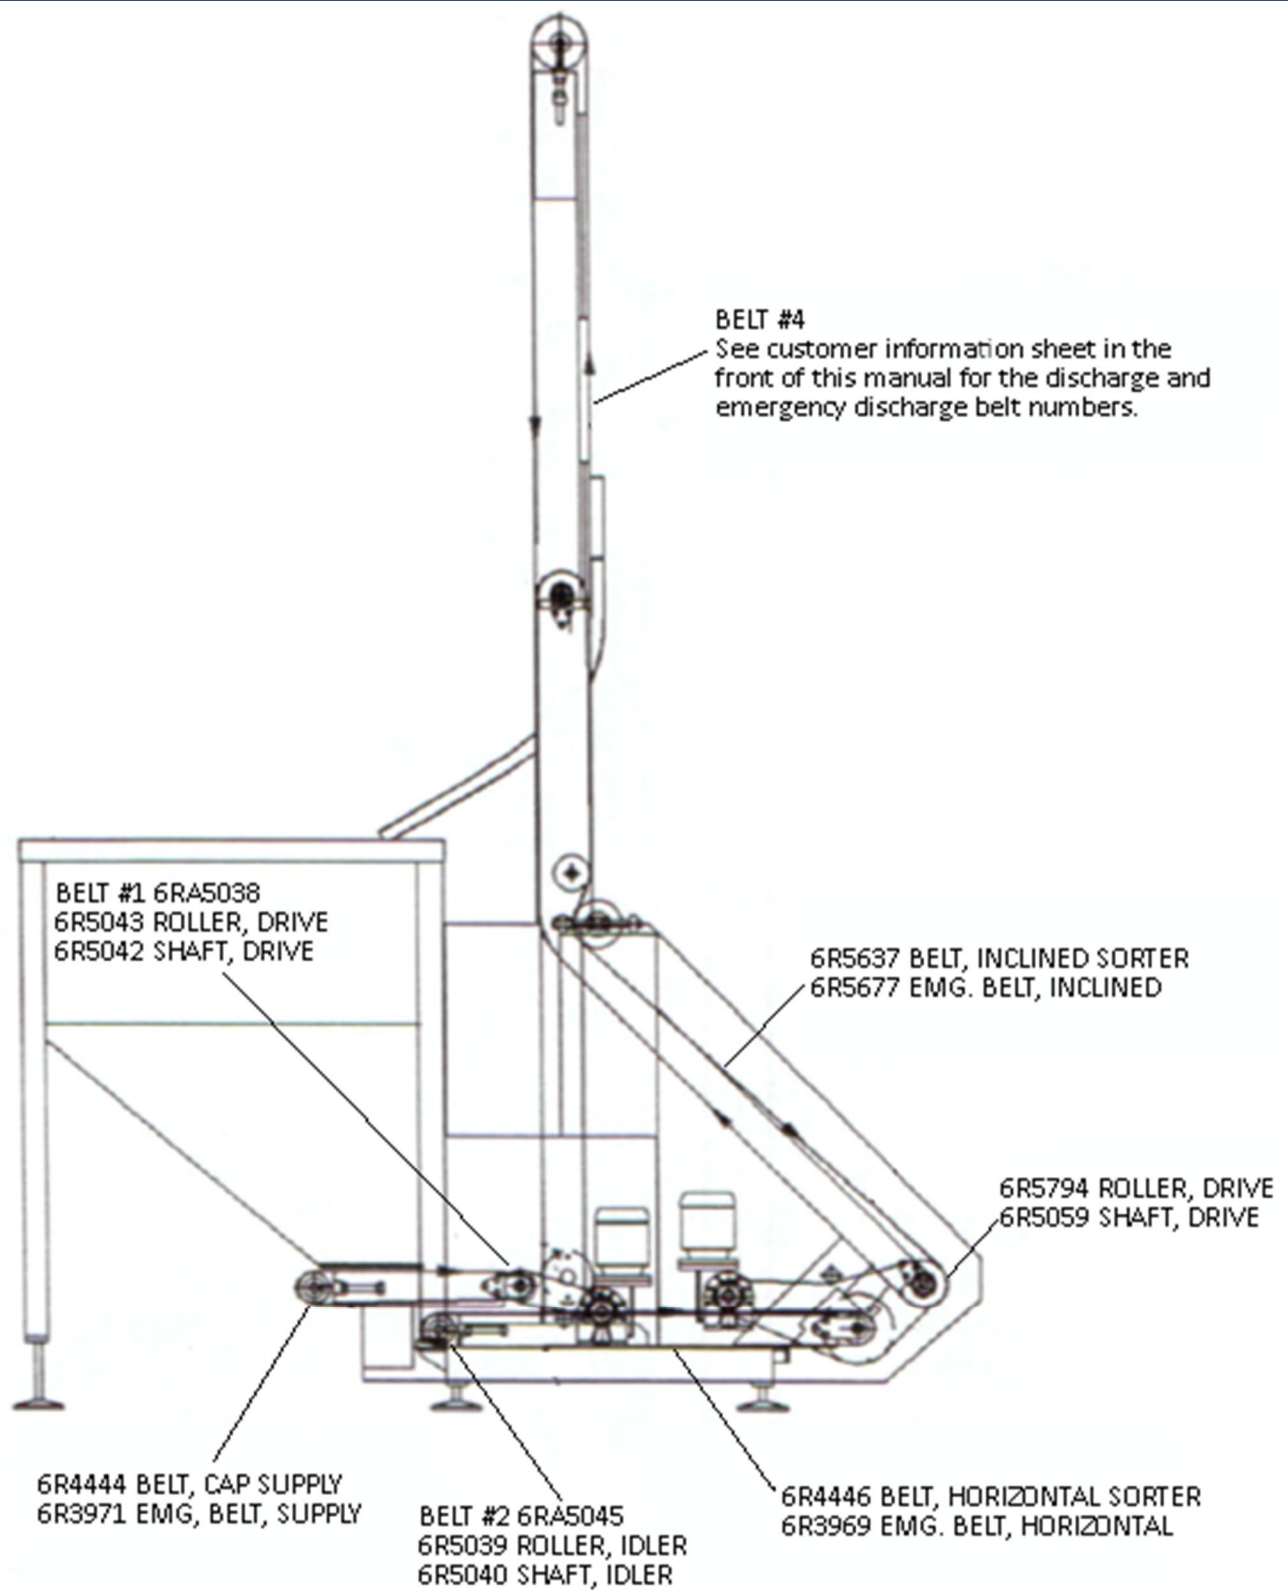

Figure 1-1: Belt Locations
19. While running at its slow speed, verify the direction of each belt travel. If any of the belts are running the wrong direction, change the polarity of the motor. Verify the belt travel direction again (*Figure 1-1*).